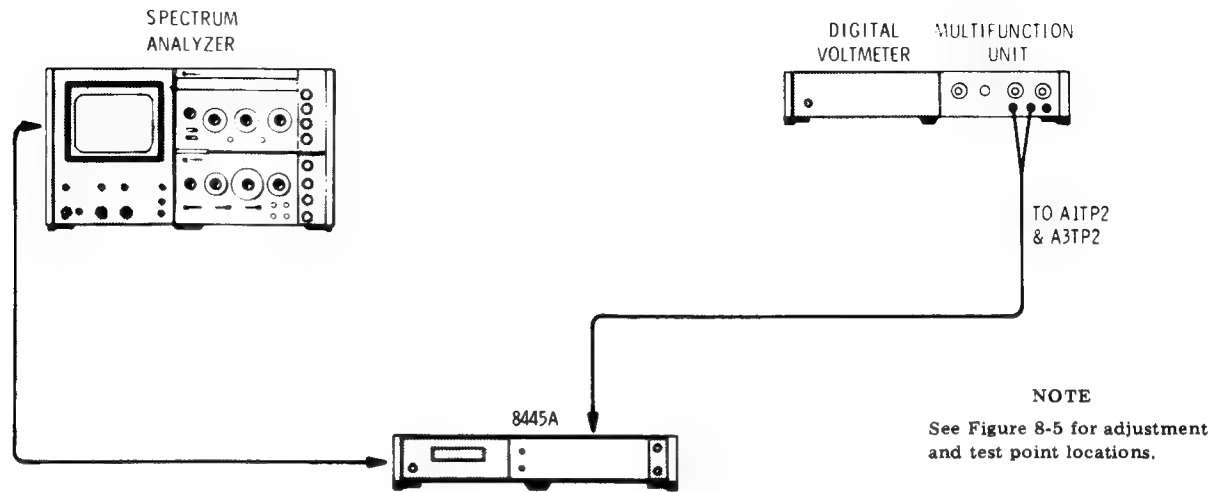

Figure 5-2. Pre-Driver Check and Adjustment Test Setup
1. Connect test setup as indicated in Figure 5-2.